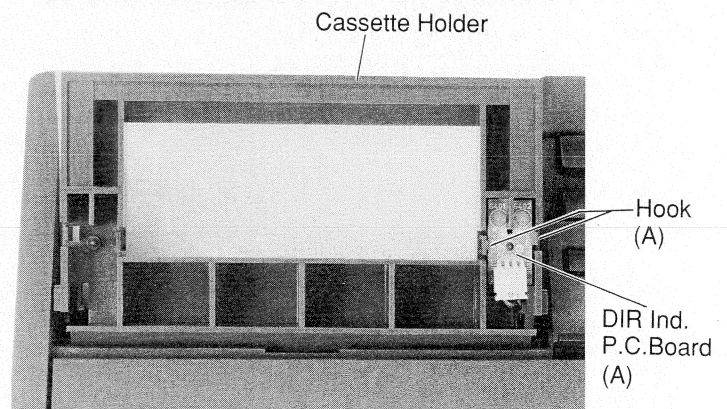

Figure 9
(3) Remove two hooks (A) as shown in Figure 9.
5. D I R 表示基板 (A) の取り外し方